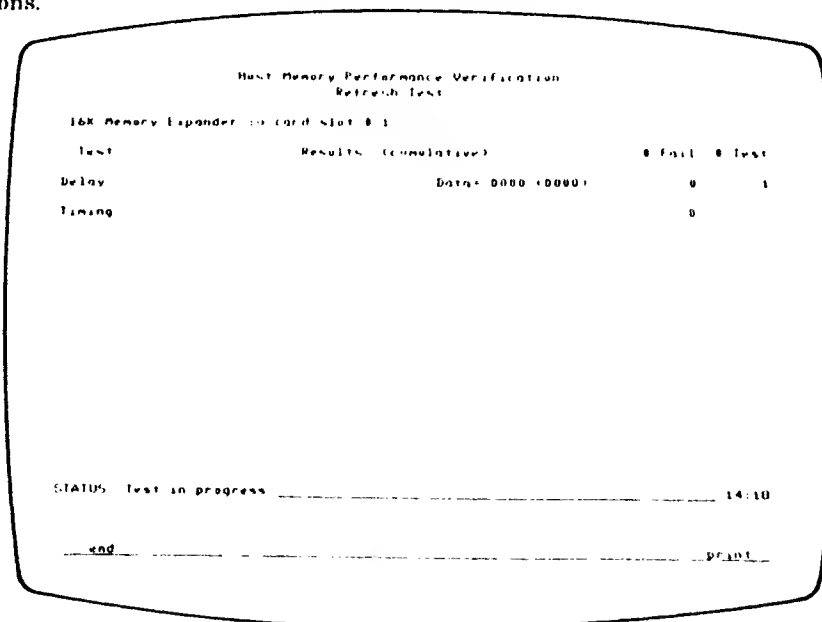

Figure 4-5. Refresh Test Display
**4-38. Purpose.** This test (figure 4-5) checks for hard failures in the refresh circuitry. When data cannot be written to the RAMs and read back correctly after waiting several refresh cycles, an error is noted. When this test fails and all other tests pass, the problem lies in the refresh circuit.
**4-41. Purpose.** Soft failures of the refresh circuit are detected in this test (figure 4-5). When the circuit refreshes memory more frequently than necessary, the power consumption on the +12 volt supply increases. Also, the mainframe CPU accesses may be delayed by this condition. The test detects statistically significant deviations from normal CPU access rates over a timed interval. When the access rate is not within the normal range, a failure is flagged.